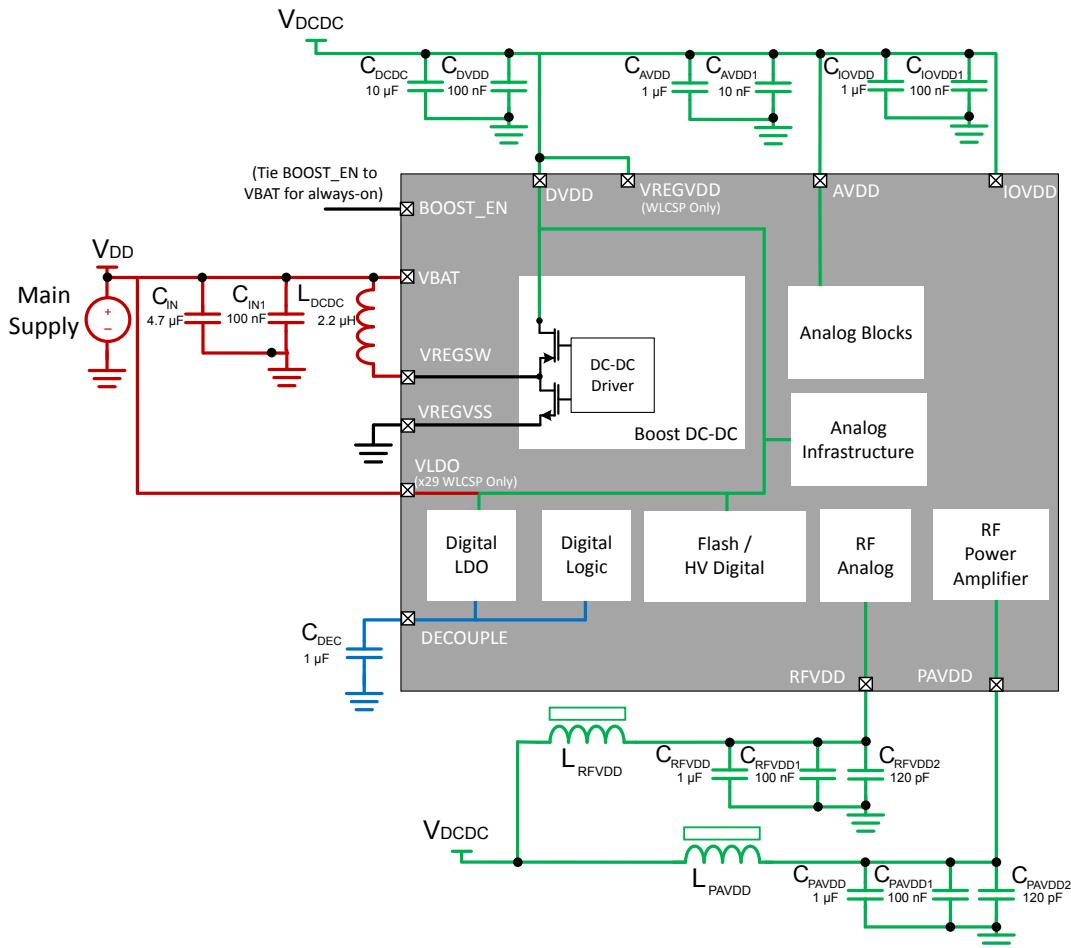

Figure 3.6. EFR32xG27/EFR32xG29 2.4 GHz DCDC Power Configuration
- Corrected component values in Figure 2.9 DC-to-DC Boost Converter Powering DVDD on page 10 and Figure 3.6 EFR32xG27/EFR32xG29 2.4 GHz DCDC Power Configuration on page 20